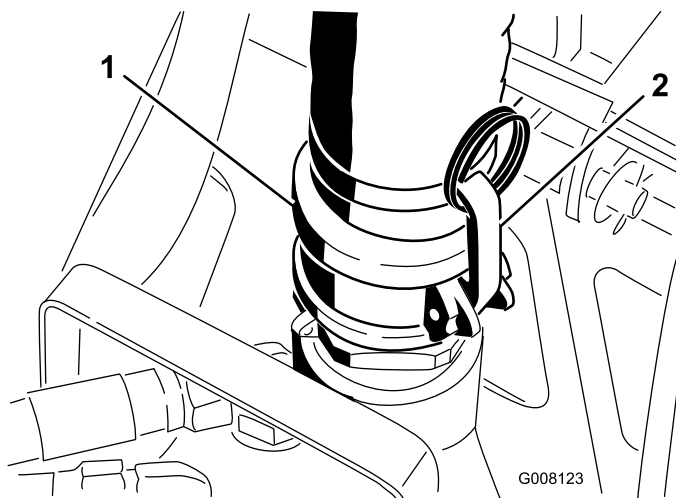

Figure 13
3. Release the latches and uncouple the discharge hose from the pump (Figure 13).
15. Couple the discharge hose to the pump and secure the latches (Figure 13).